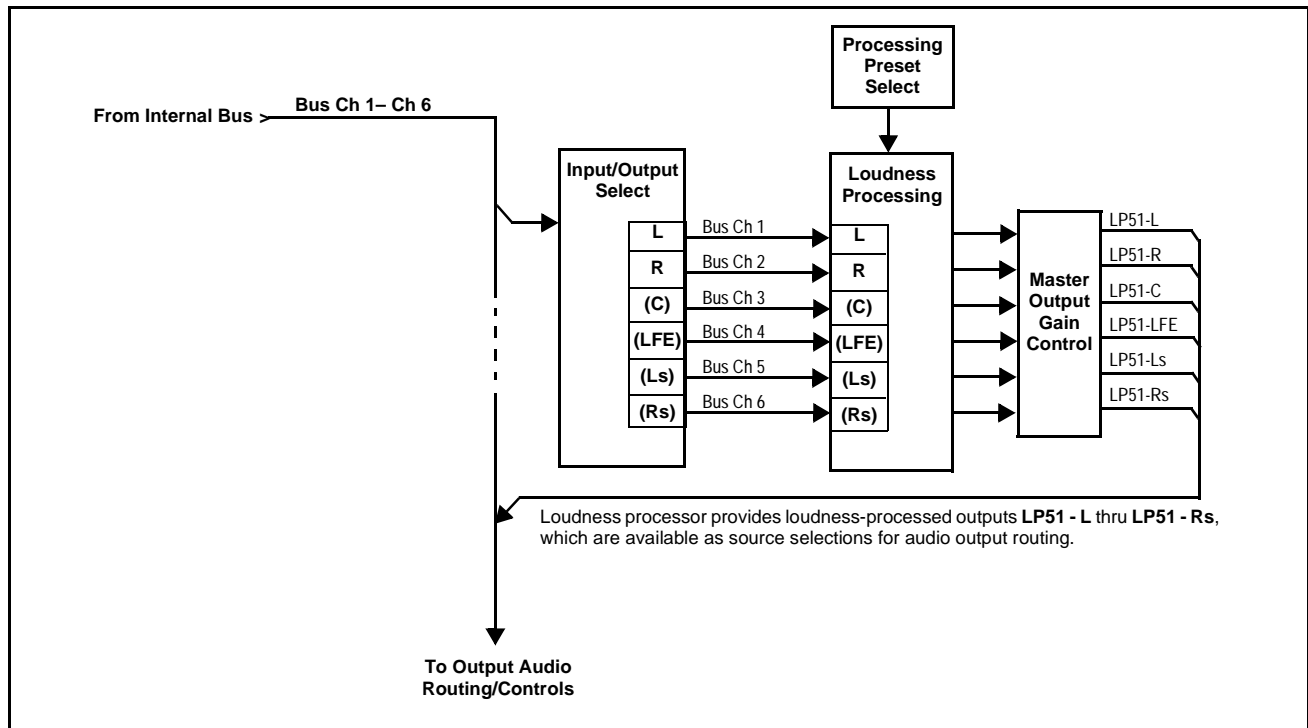

Figure 1-7 5.1-Channel Loudness Processor with Example Sources
**Loudness Processor.** **Option**  (See Figure 1-7.) The loudness processor (option +LP) function receives up to six selected channels from the internal bus and performs loudness processing on the selected channels. A loudness processing profile best suited for the program material can be selected from several loudness processing presets.
The example in Figure 1-7 shows routing of embedded output channels Emb Out Ch 1 thru Ch 6 fed through the loudness processor. A master output gain control is provided which allows fine adjustment of the overall output level.